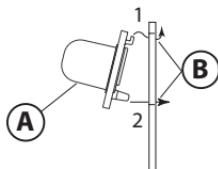

Figure 4
Before attaching a new gel spacer, remove the headgear from the mask following the instructions below. Slide the top tabs (1) on the gel spacer into the top headgear slot (Figure 4), then attach the bottom tabs (2) on the gel spacer into the bottom headgear slot.